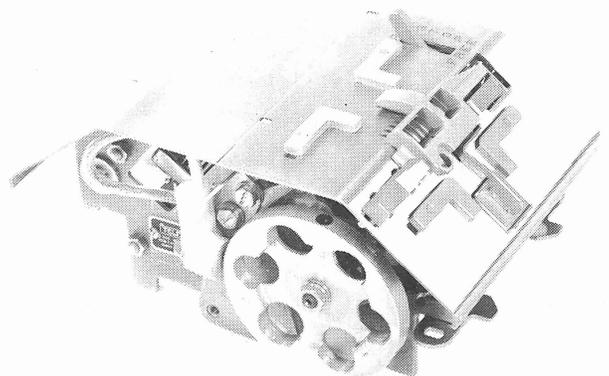

Figure 1 - Tape Reader Unit
1.04 References in the procedures to left or right, up or down, top or bottom, etc refer to the reader viewed with the flywheel facing the front (Figure 1).
1.01 This section provides disassembly and reassembly instructions for the high speed tape reader units (CX) (Figure 1). Unless specified otherwise in the instructions, the procedures apply generally to all units. It is reissued to incorporate CX806 and CX807 information, and incorporate the latest engineering changes. Arrows in the margin indicate changes and additions.